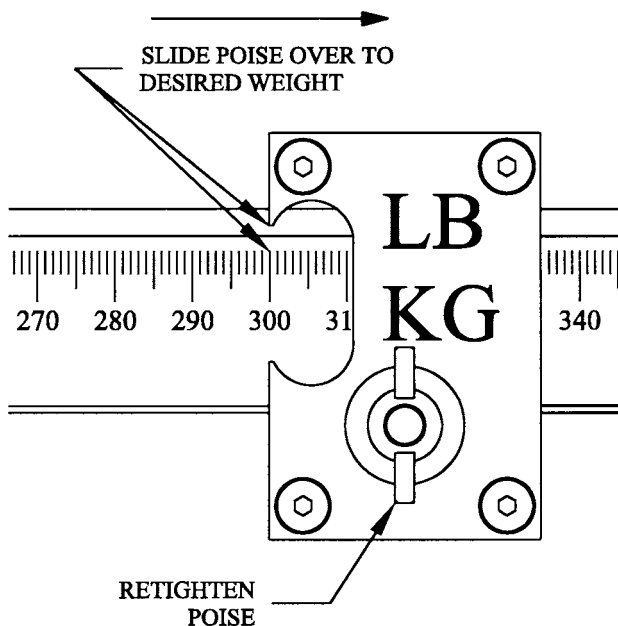

FIG. 2
STEP 2. Loosen poise on beam and slide over to desired weight. Tighten poise. See Fig. 2.